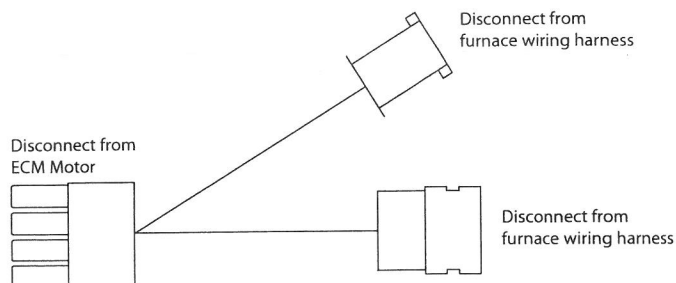

**Fig. 2 – Inducer Assembly with Pressure Switches.**
1. Remove the front pressure switch or pressure transducer tube from the port on the collector box, see Fig. 2. For Ultra Low NOx models, go to Step 7. all other models, continue with Step 2.